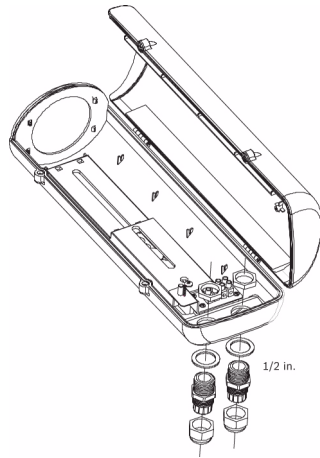

Fig. 13.4 Attaching the 1/2 in. NPT Fittings
1. Determine to use either the rear or bottom gland holes and remove the (2) rubber hole plugs.
4. Attach the two (2) 1/2 in. NPT fittings with the rubber washer on the outside of the housing directly to the rear hole openings (see *Figure 13.4* on page 24).